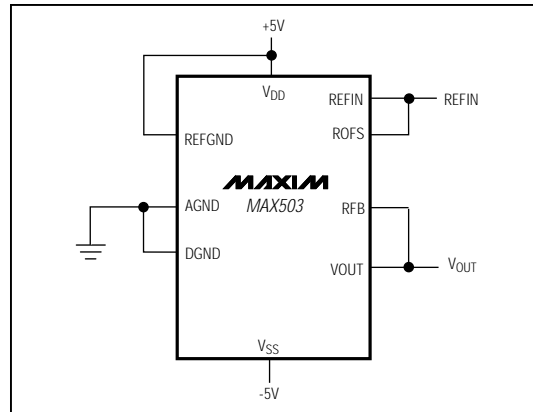

Figure 12. Four-Quadrant Multiplying Circuit
The MAX503 can be used as a four-quadrant multiplier by connecting ROFS to REF_{IN} and RFB to VOUT, and using (1) an offset binary digital code, (2) bipolar power supplies, and (3) a bipolar analog input at REF_{IN} within the range V_{SS} + 2V to V_{DD} - 2V, as shown in Figure 12.